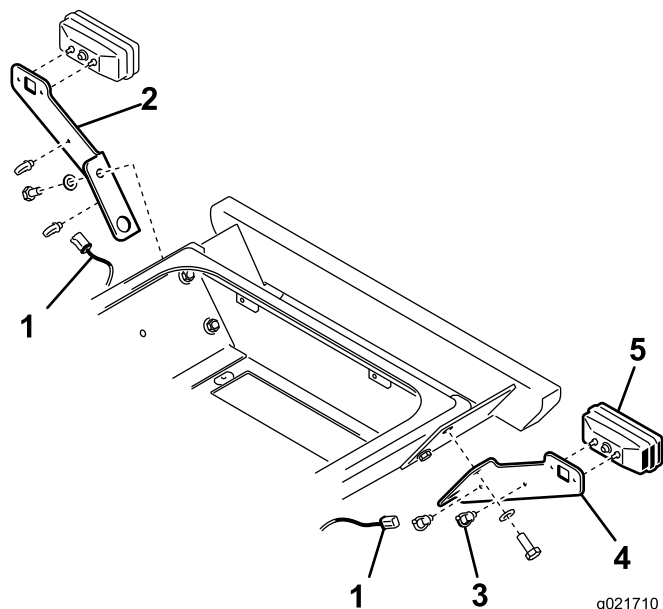

Figure 15
2. Using the bolt, washer and nut previously removed, secure the L.H. lamp mount to the bracket and frame (Figure 15). Make sure the bottom hole in the lamp mount is positioned over the bottom bumper mounting bolt.
3. Mount the rear lamp to lamp mount with bolts and nuts included with the lamp (Figure 15).
6. Route the right harness under the right side of the traction unit to the right rear lamp. Plug the harness connector into the lamps pig tail connector (Figure 15).
7. Route the left harness under the left side of the traction unit to the left rear lamp. Plug the harness connector into the lamps pig tail connector (Figure 15).